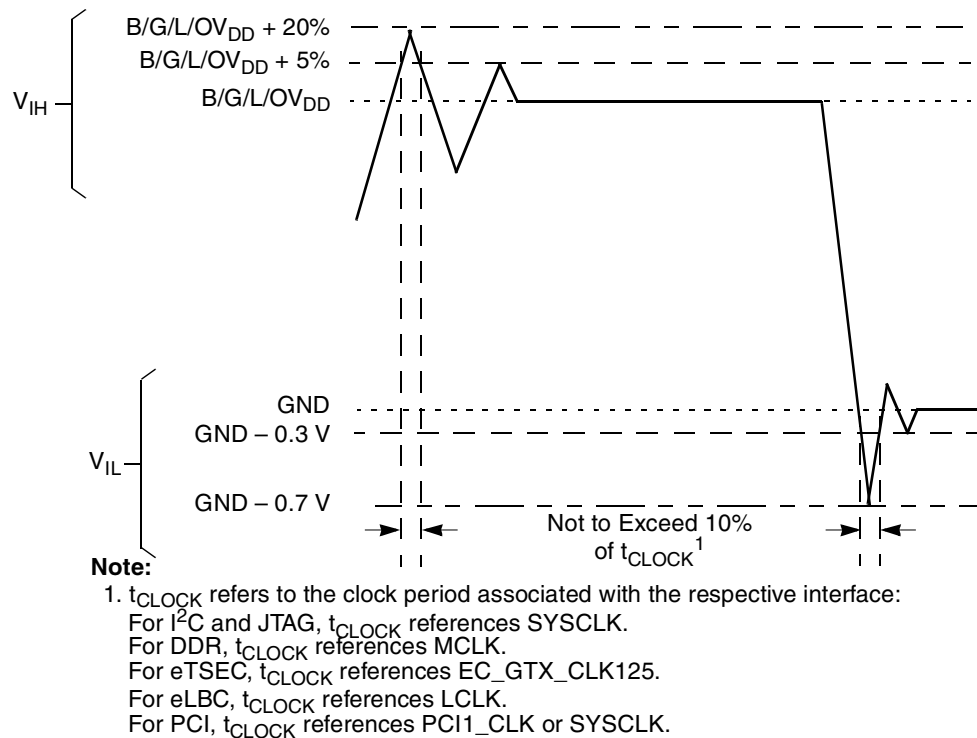

Figure 7. Overshoot/Undershoot Voltage for $G_{V_{DD}}/O_{V_{DD}}/L_{V_{DD}}$
- (M,L,O) V_{IN} and MV_{REF} may overshoot/undershoot to a voltage and for a maximum duration as shown in Figure 7.